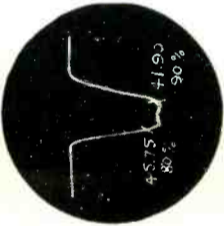

FIG. 2
- Adjust top and bottom of T-10 for marker positions as shown on curve Figure 2.